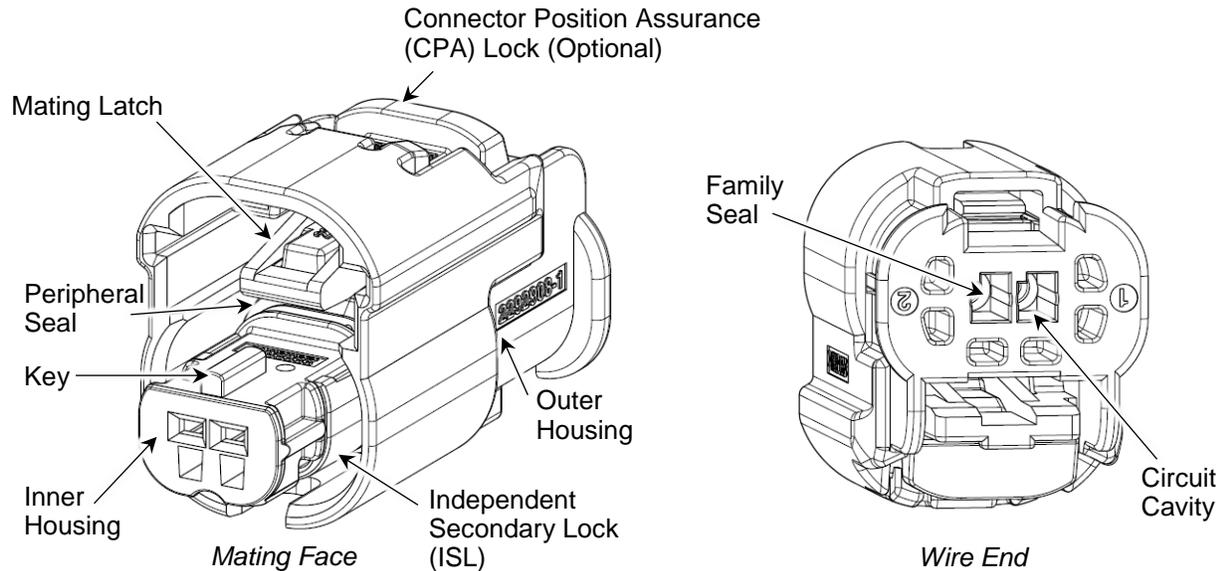

Figure 1
This instruction sheet provides assembly (terminal insertion and connector mating) and disassembly (connector unmating and terminal extraction) procedures for 1.2-mm MCON sealed plug (female) connectors, 2292906-[ ], shown in Figure 1. These connectors accept 1.2-mm MCON clean body (CB) receptacle terminals.
**2. DESCRIPTION** (See Figure 1)